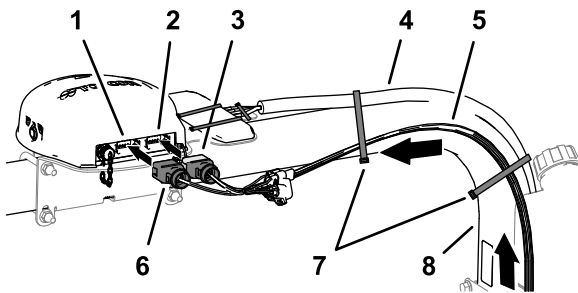

Figure 140
2. Route the 302 cm (119 inches) branch of the data harness along the right ROPS tube with the 12-socket connector (gray) and 12-socket connector (black) up toward the navigation receiver (Figure 140).
- Secure the 302 cm (119 inches) branch of the data harness to the right ROPS tube with cable ties as shown in Figure 140.